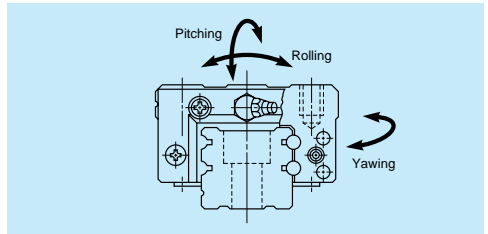

Fig. II-2-4 Moment rigidity
- 2) Moment rigidity: Three moment directions -- pitching, rolling, and yawing (Fig. II-2-4).